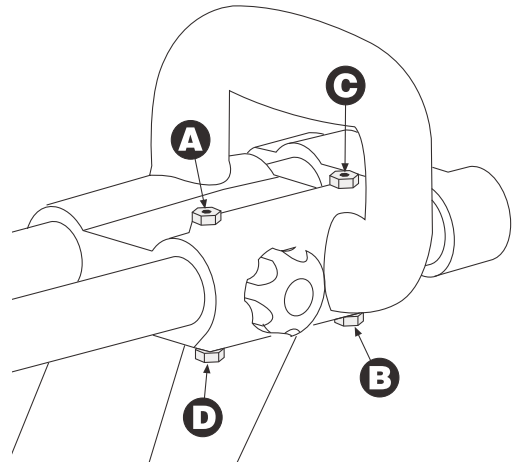
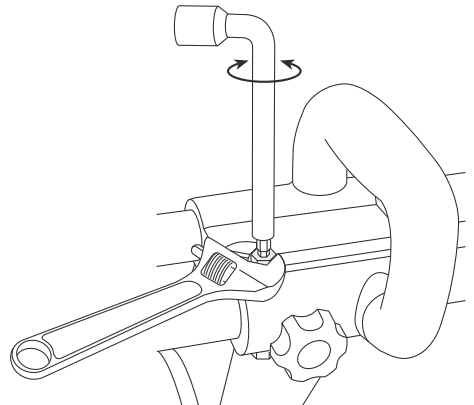

Figure 14. Set Screws
Figure 15. Adjust and Tighten Set Screw
1. Locate the 4 Set Screws (A, B, C, & D) on the Rail Guide Housing. (Figure 14)
2. Loosen the Nut on Set Screw (A) with an adjustable wrench.
3. Tighten or loosen Set Screw (A) with the 4mm end of the bit on the multi-purpose tool until you achieve minimal slide play while maintaining the desired sliding force.
4. After adjusting Set Screw (A), hold Set Screw (A) with a 4mm allen key and tighten the nut with an adjustable wrench without moving the Set Screw. (Figure 15)
5. Complete steps 2-4 with the remaining set screws in order as shown in figure 14.